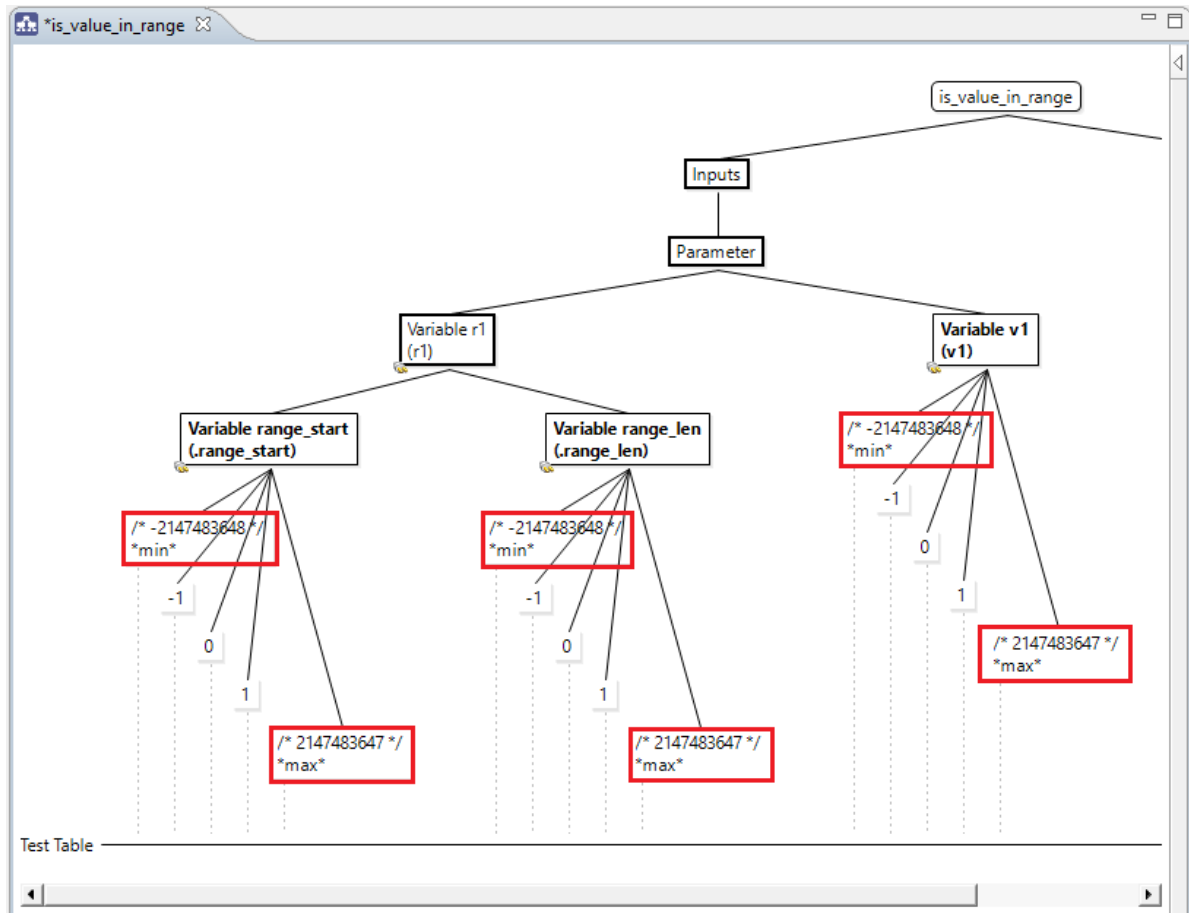

Figure 5.59: Deleting elements
- Click on one of the red marked elements in figure 5.59.